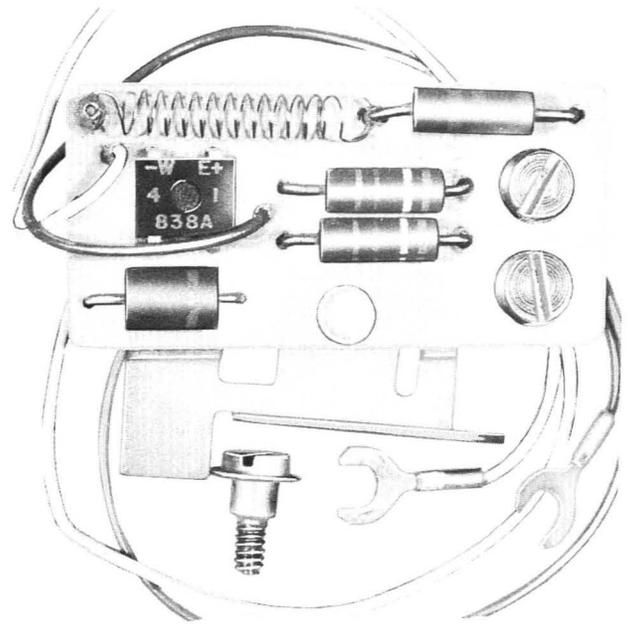

Fig. 7—D-181063 Kit of Parts (Polarity Guard)
3.06 Install polarity guard (D-181063 Kit of Parts), (Fig. 7) in 2702B (MD) or 2702BM sets equipped with M-type ringer only when specified by local instructions for end-to-end signaling. Installation is as follows.